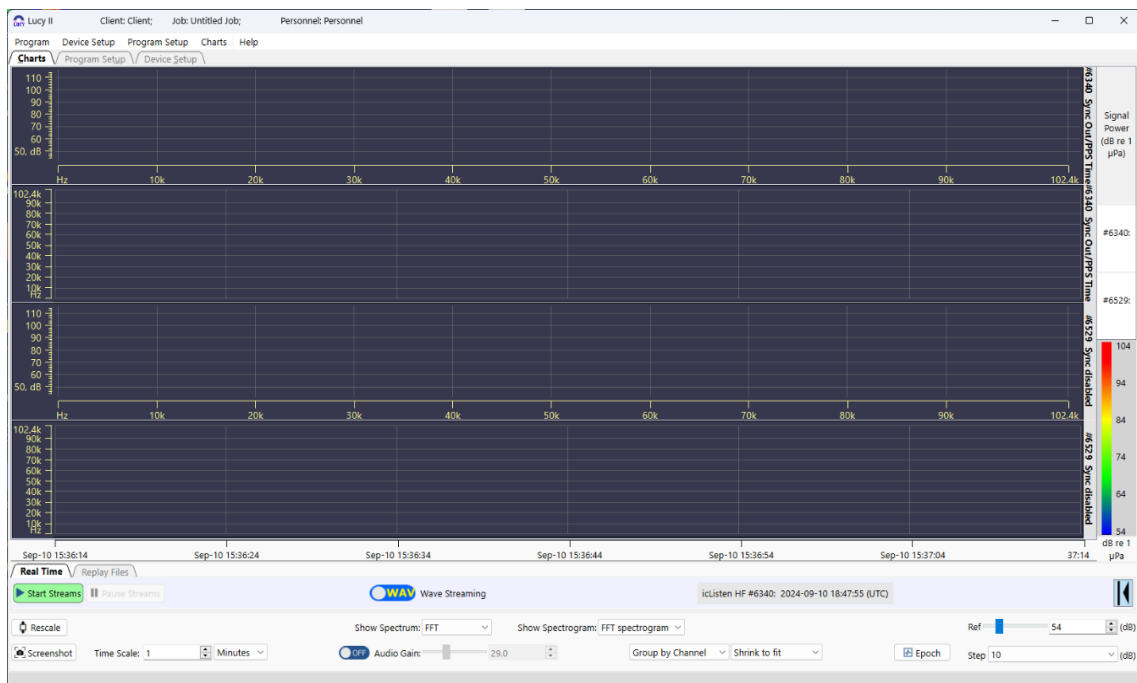

Figure 1-7 Charts – Start Streams
1. Select tab **“Charts”** (Figure 1-7).
2. Click on the button **“Start Streams”** to start streaming data (Figure 1-7).